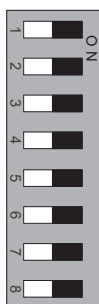

Figure 3.2 S1 DIP Switches — OFF Position
- **OFF** — is defined as the DIP Switch in the down position (set towards the card). **Figure 3.2** illustrates all the DIP Switches in the **OFF** position.